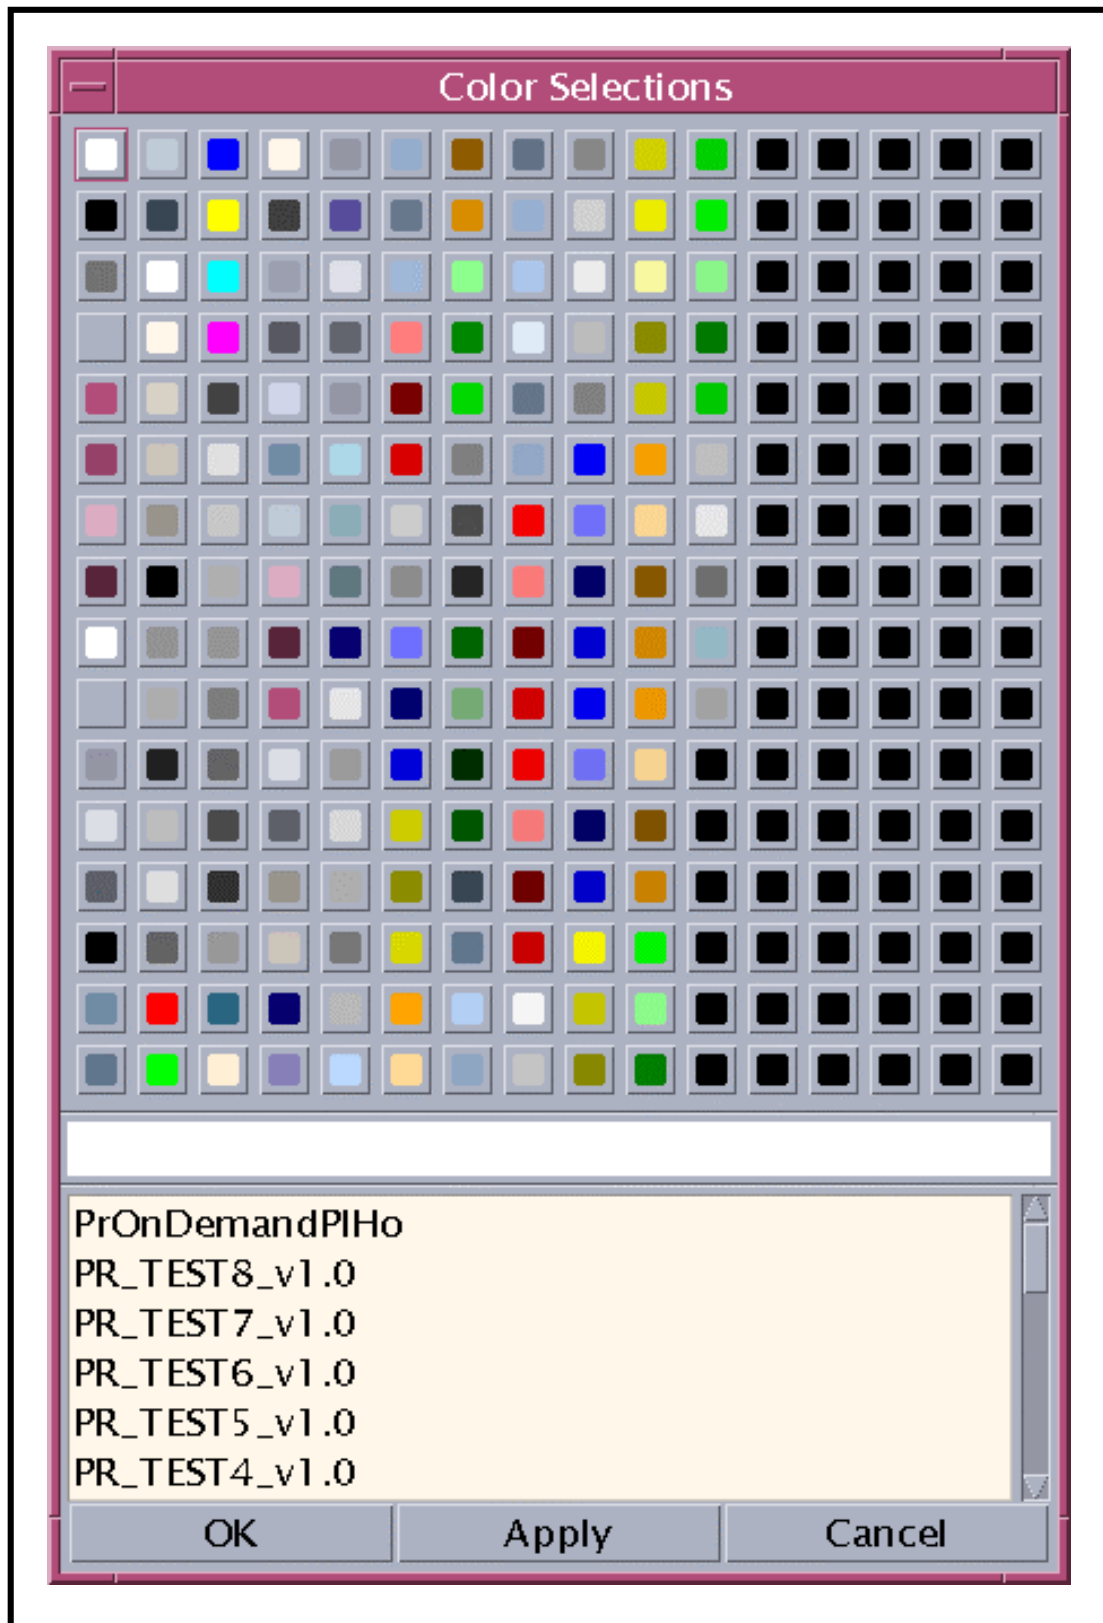

Figure 38. Color Selections Window
- The Color Selections window (Figure 38) is displayed.